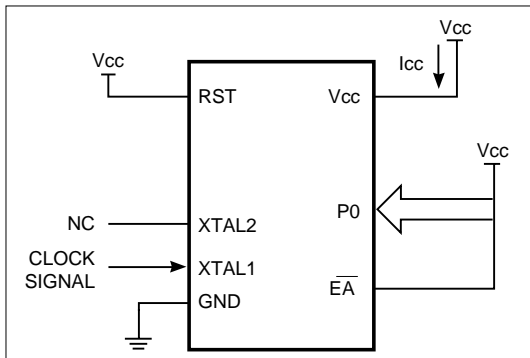

Figure 7. Active Mode
1. See Figures 7, 8, 9, and 10 for I_{cc} test conditions.